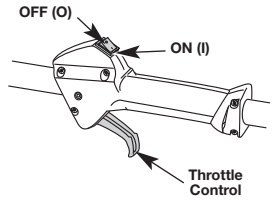

Fig. 18
- There is no need to turn the unit on. The On/Off Control is in the ON (I) position at all times (Fig. 18).
- Press and hold the On/Off Control switch in the **OFF (O)** position until the unit comes to a complete stop (Fig. 18).